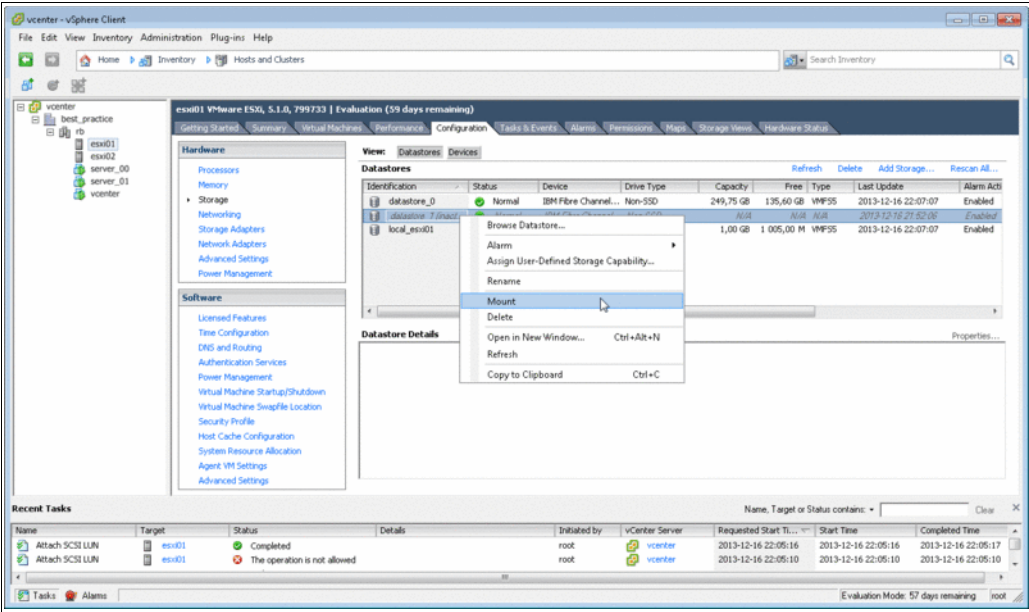

Figure 16-35 Remounting of the datastore after correcting the LUN ID
4. Right-click the datastore that is added again and then click **Mount**, as shown in Figure 16-35.